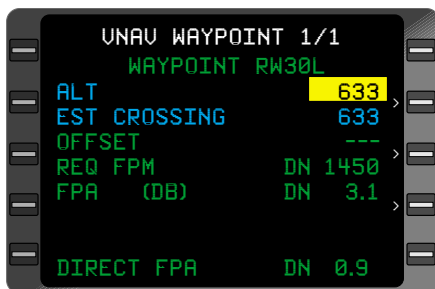

Figure 3-126
- ENT** Key - DEPRESS. The **VNAV WAYPOINT** Page appears with the cursor over the **ALT** field. (Figure 3-126)
NOTE: If the FPA was retrieved from the database, (DB) appears in the FPA type field. (Figure 3-126)